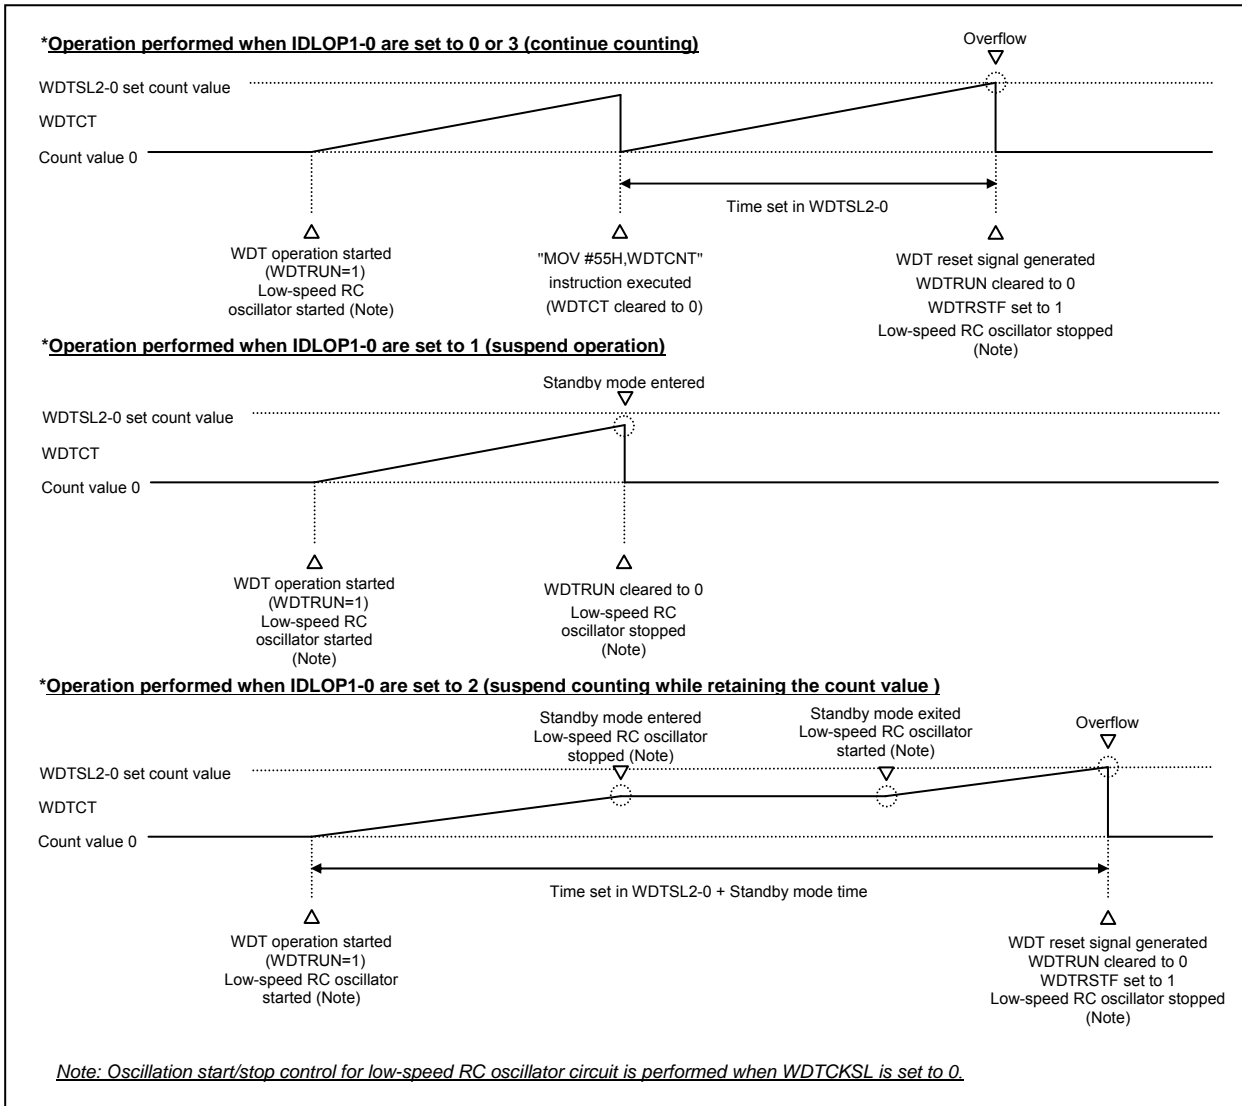

Figure 4.6.2 Sample Watchdog Timer Operation Waveforms
* See Figure 4.6.2 for details on WDT operation.
* See “Figure 4.6.2” for details of the WDT operating modes.